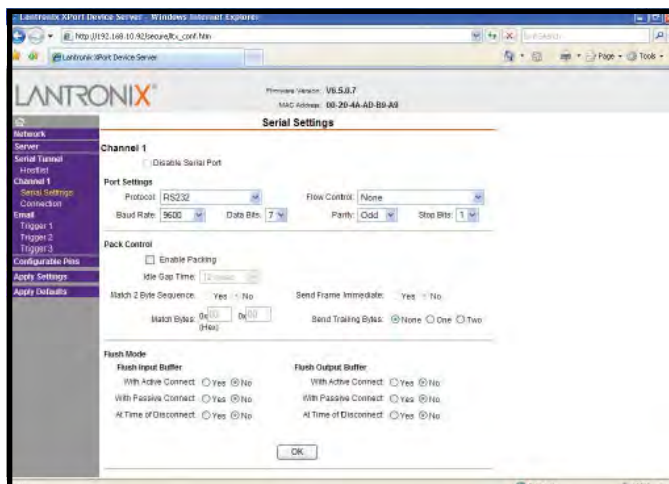

Figure 94. Channel 1 Serial Settings
- III. The configuration web page will open. Click on the "Channel 1 Serial Settings" link located in the left-hand margin (see Figure 94).